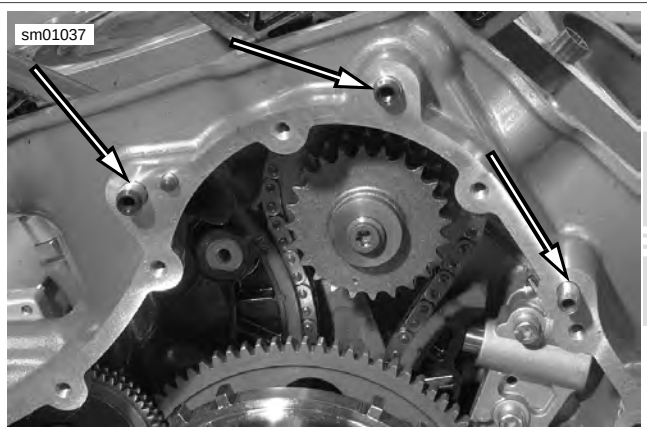

Figure 3-57. Cam Chain Tensioner Guide Pins
4. See Figure 3-57. Use CAM CHAIN TENSIONER GUIDE PIN REMOVER/INSTALLER (Part No. HD-45312) to remove cam chain tensioner pins.